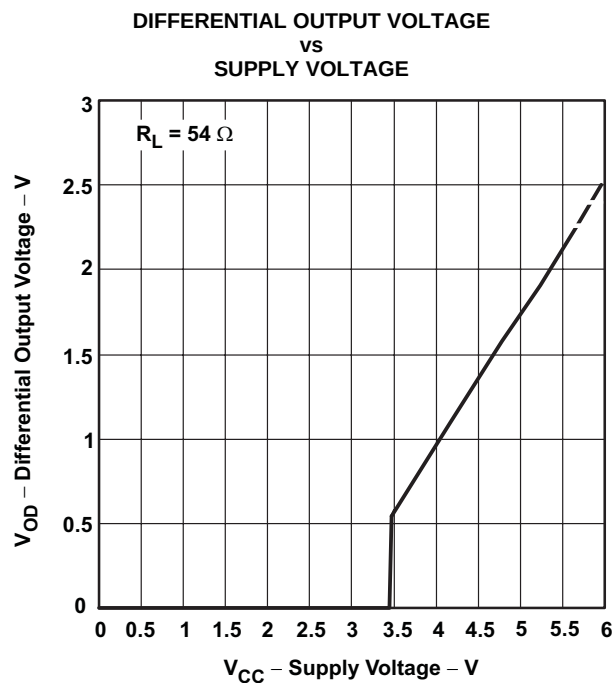

Figure 13.
- Changed DW Package appearance - Added Figure 13	1 11